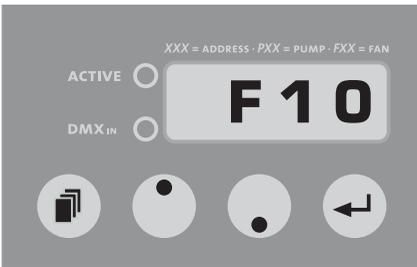

Fig. 2: Display shown at adjusting the fan output
- c) Press the Mode button [14] again until an F and two figures appear on the display [17] (see Fig. 2).
- a) Press the Mode button [14] at the control panel until an F and two figures appear on the LED display [17] (see Fig. 2).